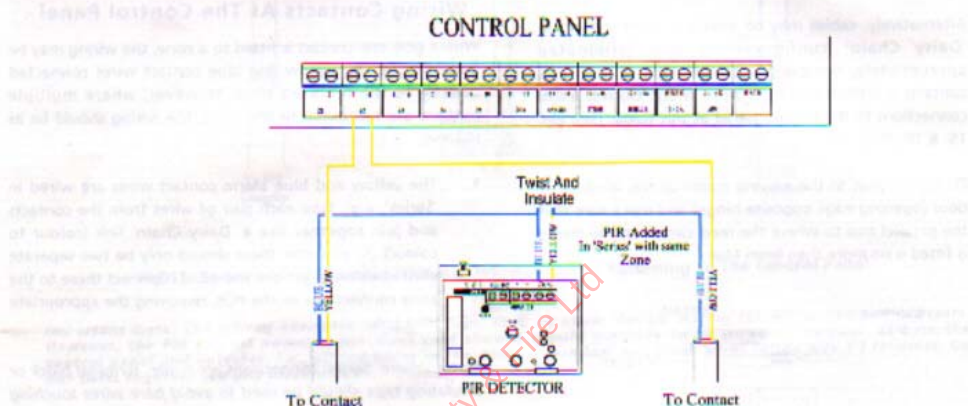
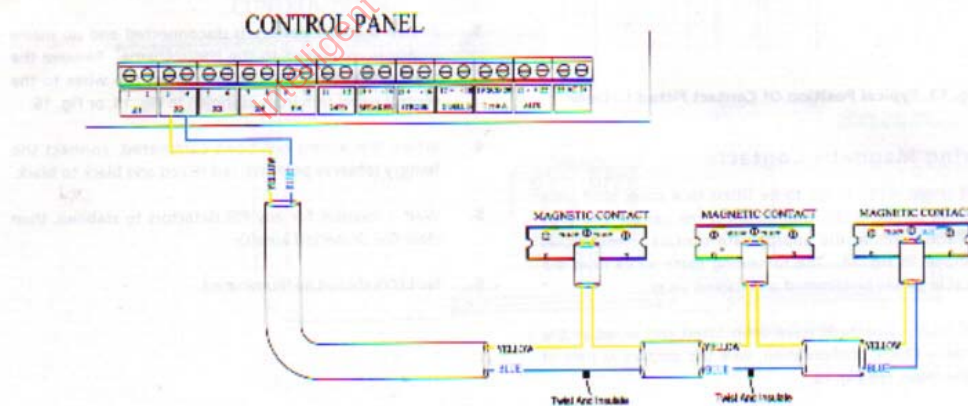

Fig.15. Series Wiring Example With All Contact Cables Returning To The Control Panel
Fig.16. Series Wiring Example Contact to Contact With One Cable Returning To The Control Panel (Daisy Chain)
Alternatively, cables may be linked to each contact in 'Daisy Chain' configurations and terminated appropriately, however, working space at magnetic contacts is limited and may prove tricky. Do not make connections to the control panel at this stage. (See Fig. 15. & 16., Page 16).
2. If multiple contacts have been fitted and wired in the 'Daisy Chain' configuration, wire the contact as part of the chain, see Fig. 16.
3. Ensure that the battery is disconnected and no mains supply is connected to the control panel. Remove the appropriate wire links, then connect the wires to the control panel terminals as shown in Fig. 15. or Fig. 16.
3. If multiple PAs have been fitted and wired in the 'Daisy Chain' configuration, wire the PA as part of the chain, the same as the contacts, (see Fig. 16)